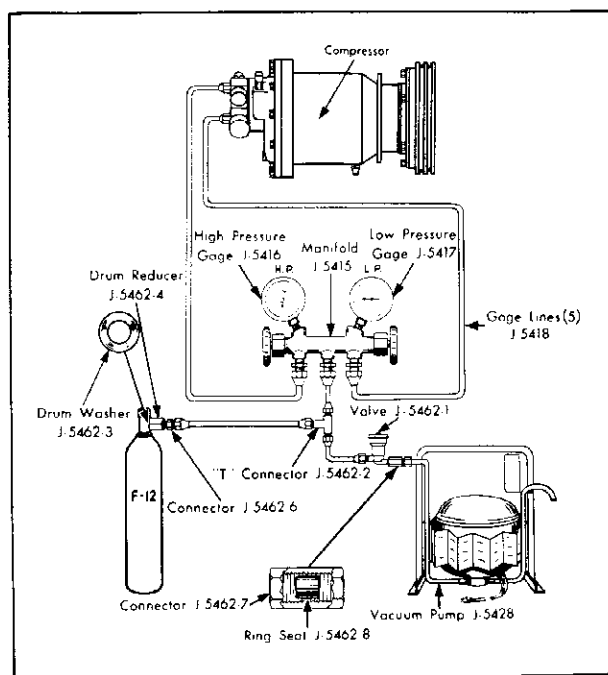

Fig. 16-A-5 Gage Connections For Evacuating or Adding Refrigerant
2. Connect gage lines to fittings as shown in Fig. 16-A-5. Make certain gage set valves and shut-off valve at vacuum pump are closed tightly.
(6) Purging the System